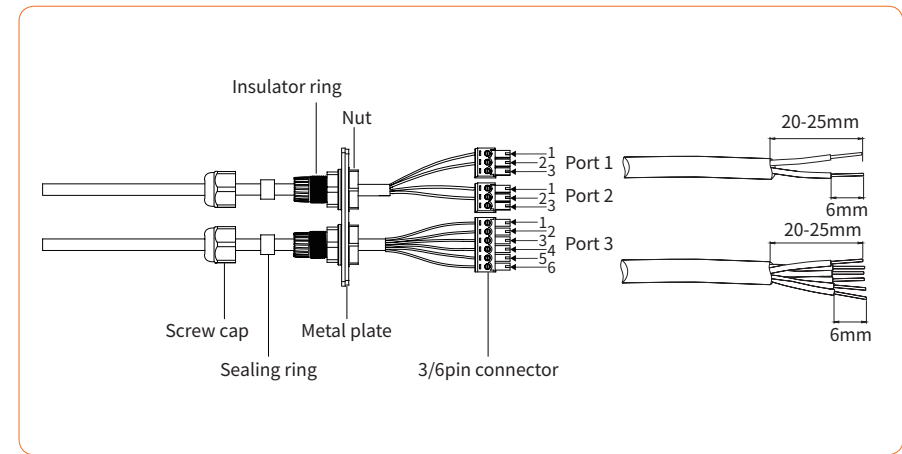

Figure 4-28
- ① Remove the COM2 plate in the bottom of the inverter with a cross screwdriver.
- ② Put the cable through the connector and connect to the terminal in the following order: screw cap, sealing ring, insulator, metal plate, nut and 3/6pin connector, as shown in Figure 4-28: